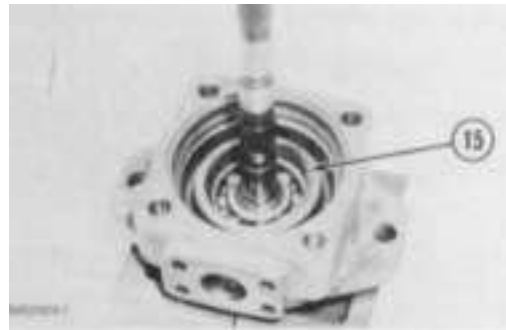

FIGURE 7-47
11. Install the spiral retainer ring (15, Figure 7-47) over the shaft and onto the bearing.